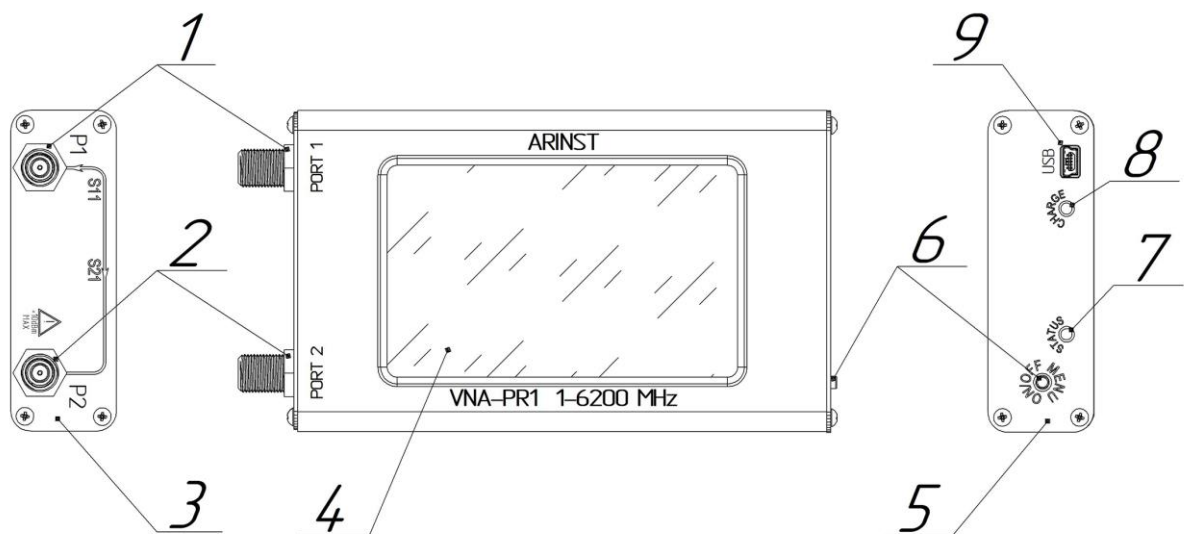

Figure 5.1 - External view of the device
5.1. The device structure is shown in Figure 5.1.